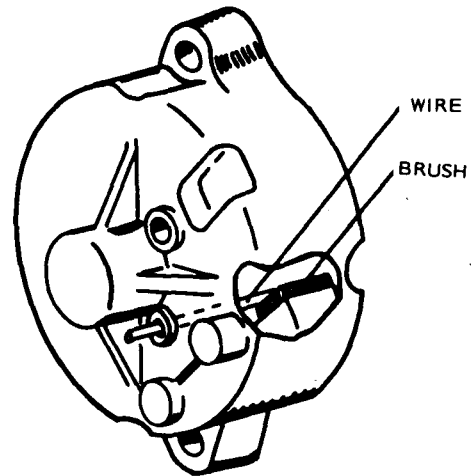

FIGURE 61
- Insert two brushes and springs in their brush holders and push them against spring tension. Secure the brushes by iron wires as shown in Figure 61.